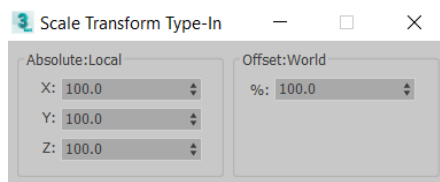
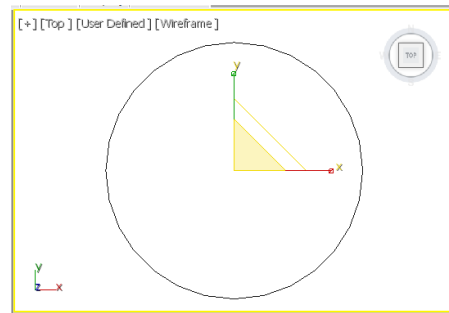

Figure 15-82 The *Scale Transform Type-In* dialog box
Figure 15-83 The *Circle001* spline scaled along the X-axis
3. Make sure that *Circle001* is selected in the Top viewport. Right-click on the **Select and Uniform Scale** tool from the **Main Toolbar**; the **Scale Transform Type-In** dialog box is displayed, as shown in Figure 15-82. Now, in the **Absolute:Local** area, set the value **111.0** in the **X** spinner; *Circle001* is scaled along the X-axis, as shown in Figure 15-83. Now, close this dialog box.